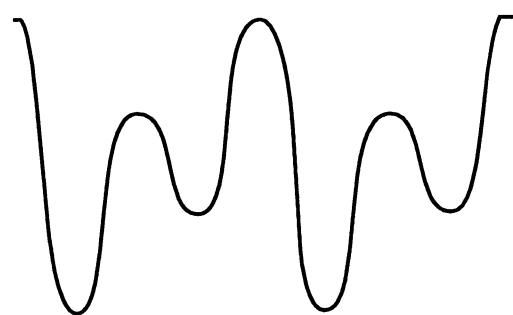

Figure 26. Non-inverting Receiver: PS-FRED to RDM and RDM to Transmitter Inversion
- If it looks like Figure 26, there has been an inversion between the PS-FRED